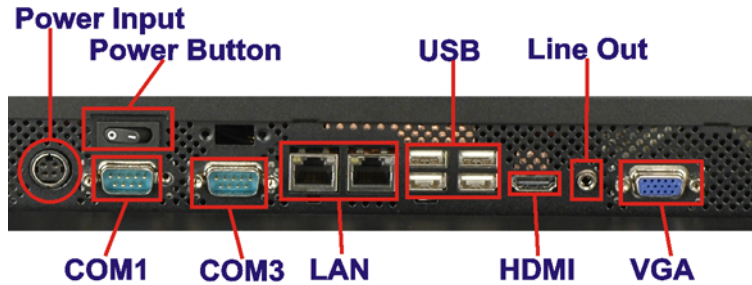

Figure 2-7: Connectors
Step 1: Locate the DB-9 connector. The location of the DB-9 connector is shown in **Figure 2-7**.
Step 1: Located the USB connectors. The locations of the USB connectors are shown in **Figure 2-7**.
Step 1: **Locate the female DB-15 connector.** The location of the female DB-15 connector is shown in **Figure 2-7**.